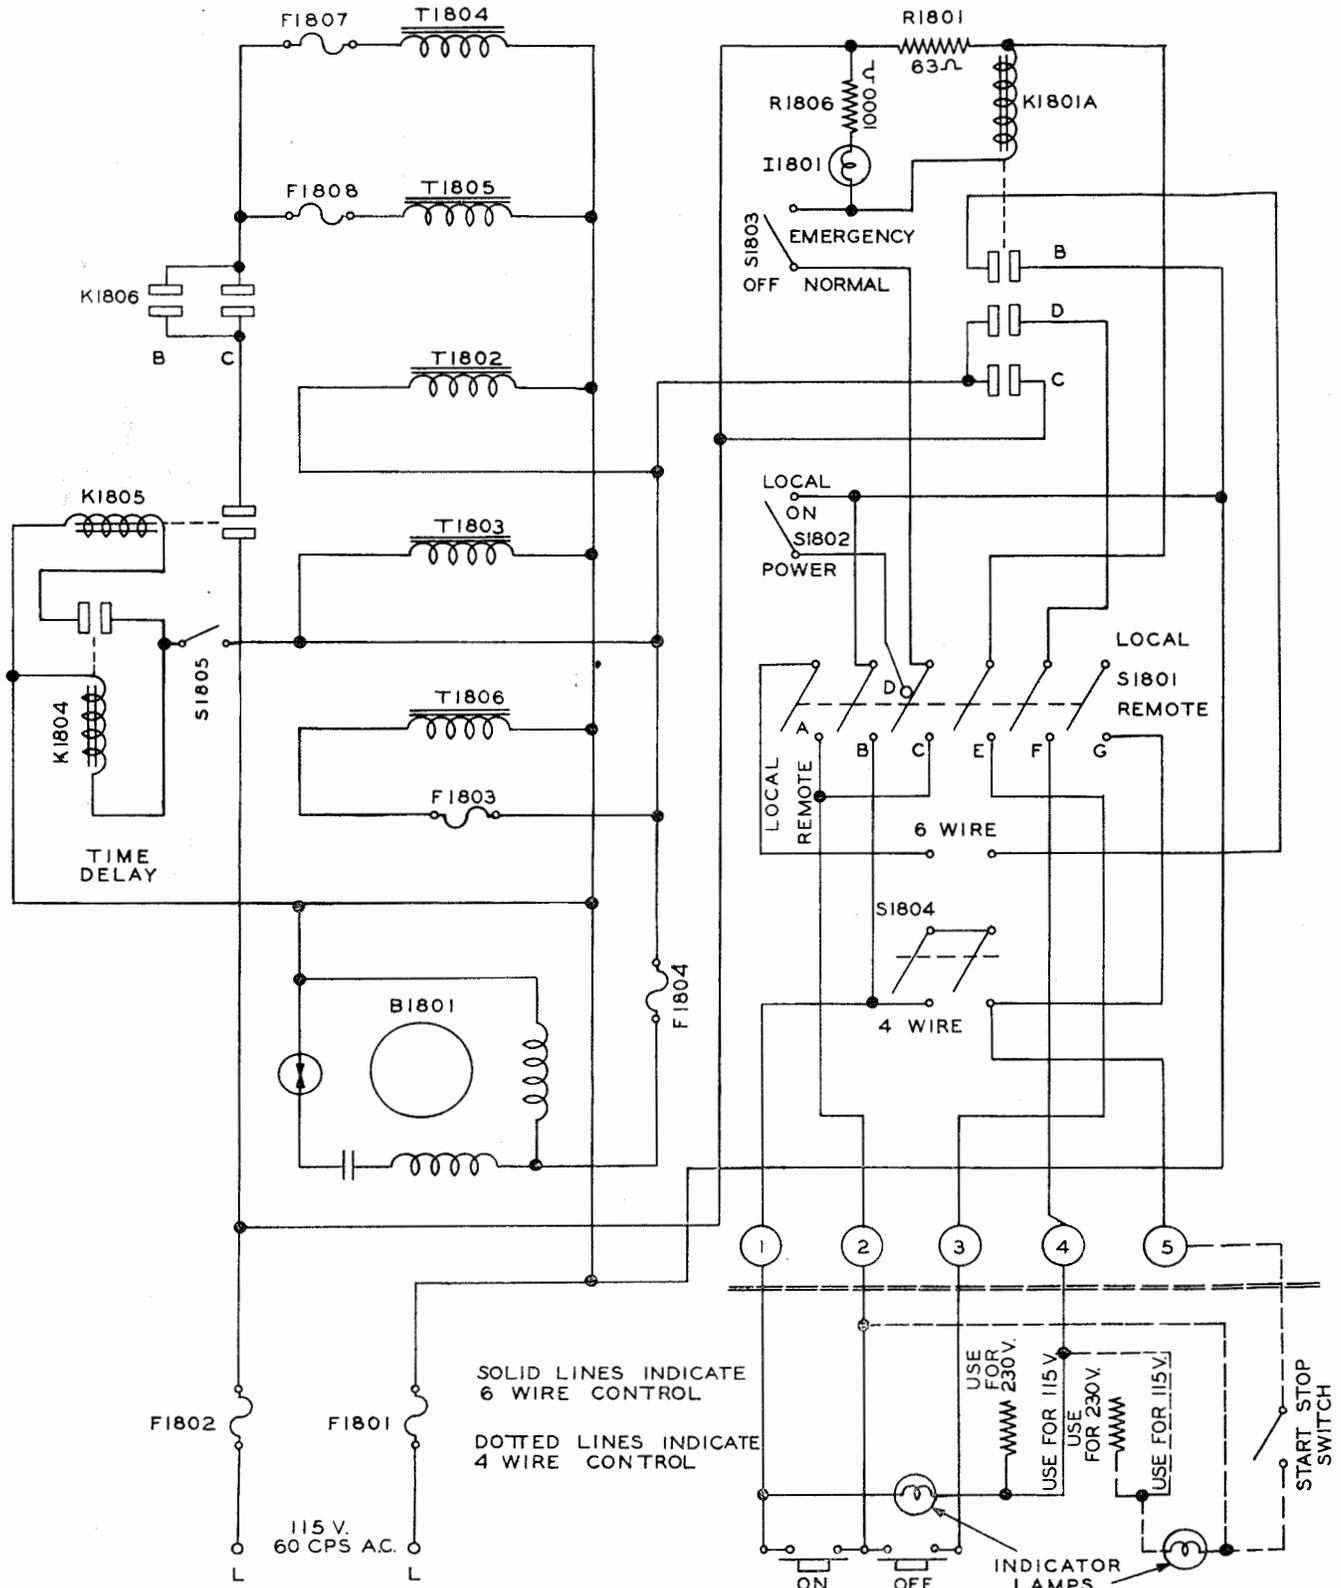

Fig. 11 Simplified Power Control Circuits for A.C. Power Unit
2.1.4. Refer to Figure 11. Operation of filament power relay K1801 completes the circuits necessary for application of primary power to the rectifier filament transformers, the motor of the direct current motor-generator set, and the time delay relay K1804. Subsequent operation of interlock relay K1805 and plate power relay K1806 applies primary power to the plate power transformers T1804 and T1805.